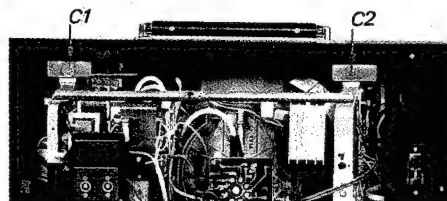

Fig. 2-4.
2. Remove the two screws labeled C1~2 in Fig. 2-4.